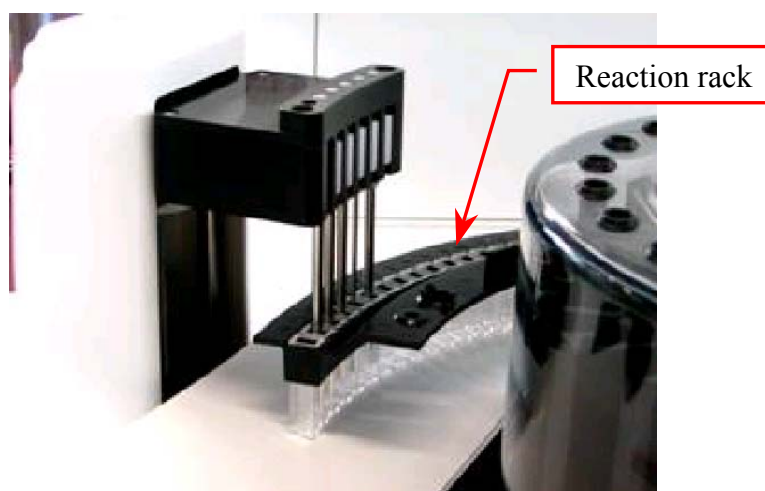

Fig. 77 - Washing Station and reaction rack
6. Put one reaction rack below the Washing Station, permitting at the cannulas to reach the bottom of the cuvettes (as shown in **Fig. 77**).
8. Check that the cuvettes are correctly filled and emptied (**Fig. 77**):